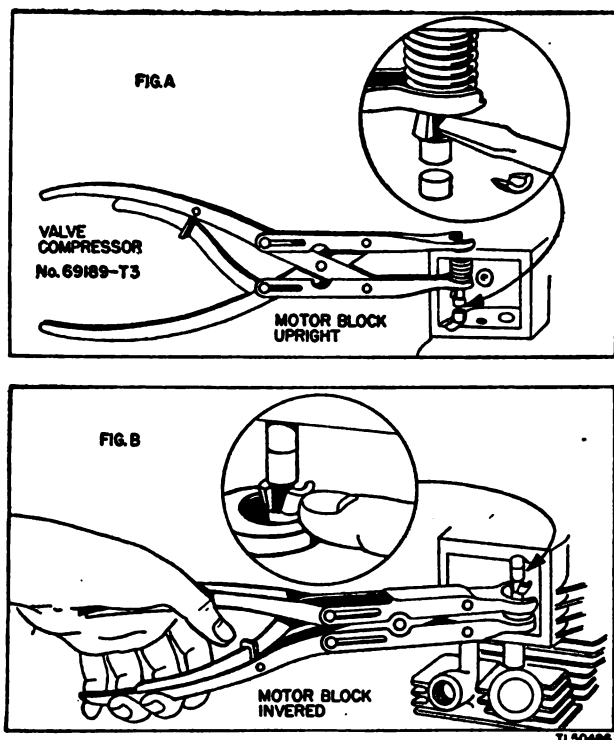

Figure 53. Removing and replacing valves.
(2) *Removing valves* (fig. 53). (a) Remove the muffler, carburetor intake elbow, and cylinder head.
(3) *Replacing valves* (fig. 53). (a) Invert the cylinder after the oil has been drained.